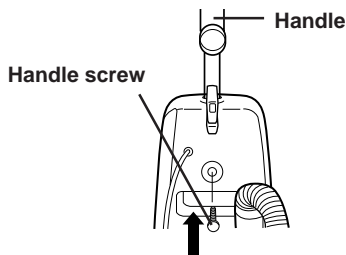

Fig.2
- 2** Line up the small hole on the handle with the small hole on the rear of the vacuum cleaner and insert the screw. (Fig. 2) Be sure the screw is tightened securely.